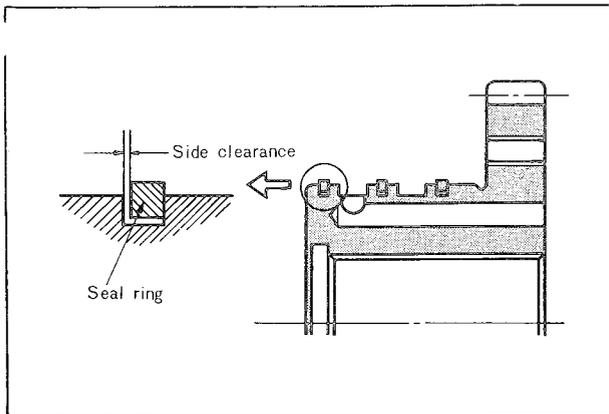

Fig. 7B-40 Clearance of oil seal ring
4. Check the side clearance between the seal ring and groove, as shown in Fig. 7B-40. This clearance should be 0.04 ~ 0.16 mm (0.002 ~ 0.006 in). To remove the seal ring, squeeze it up so that its joint will rise above the groove and disconnect the joint.